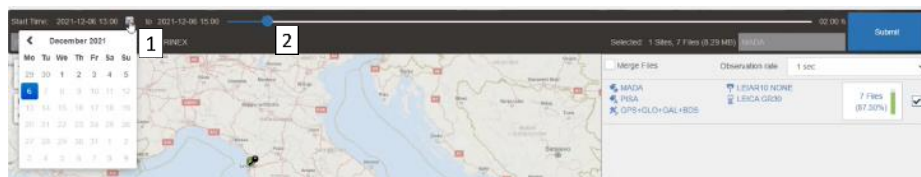

Fig. 98 – Rinx data time interval selection
3. Select the **starting date** and **time** (local time) from dedicated icon (1 of Fig. 98), and then the duration of the request through the time bar (2 of Fig. 98);